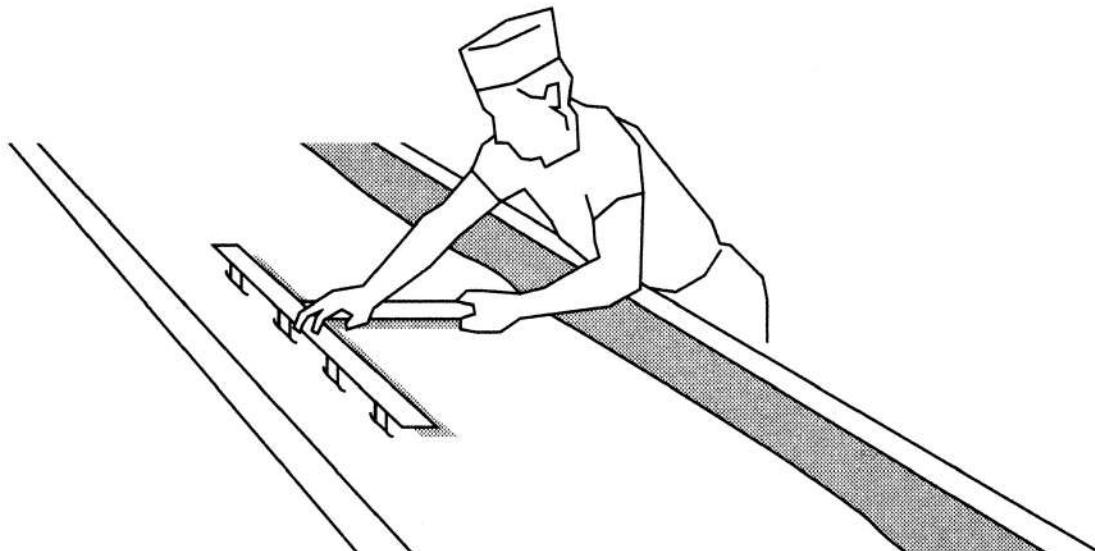

Figure 2. Next, the curds must be separated from the whey, and the curds are then cut. As the whey separates, it is drained.
2. The next step is to add animal or vegetable rennet to the milk for fast separation into curds and whey. Once formed, the curds are cut both vertically and horizontally with knives (see figure 2). In large factories, huge vats of curdled milk are cut vertically using sharp, multibladed, wire knives that look like oven racks. The same machine then turns the curds and slices them
3. Moisture must then be extracted from the curds, although the amount removed depends on the type of cheese. For soft, high-moisture cheeses, draining is enough (see figure 2). Drier, harder types require the curds to be cut, heated, and/or filtered to get rid of excess moisture. If the curds need to be aged, they are then put into molds where they are pressed into the proper shape and size. Soft cheeses, such as cottage cheese, are not aged (and must be eaten rather quickly since they have a shorter shelf life).